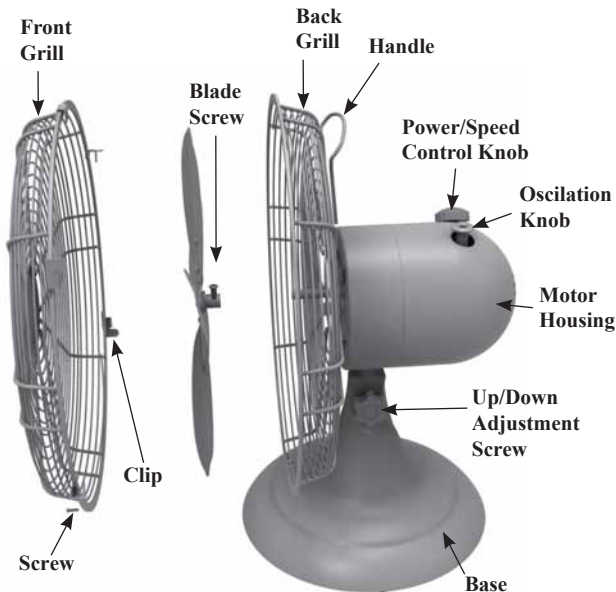

Figure 15
2. Disassemble grills by carefully removing the screw on the bottom of the grill. See Figure 15.